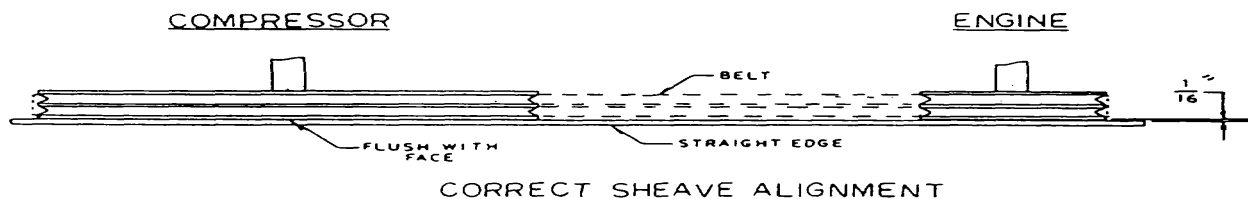

Figure 4-1. Compressor Unit Sheave Alignment
- (6) Pull compressor away from engine and tighten compressor mounting nuts while pulling compressor.
- (7) Use a straight edge against the engine and compressor sheaves (Fig. 4-1). Rotate the compressor about its vertical axis to align the sheaves. Secure the mounting nuts (45, Fig. D-2).